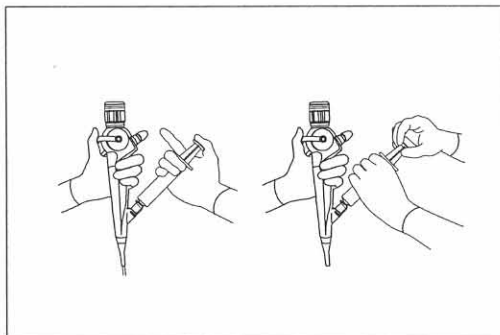

Figure 4.6
1. Securely insert a syringe filled with lavage fluid (e.g. saline) into the Slit of the Biopsy Valve and press the plunger to feed lavage fluid. (See Figure 4.6)
2. With the syringe attached, slowly withdraw the plunger to aspirate lavage fluid. (See Figure 4.6)